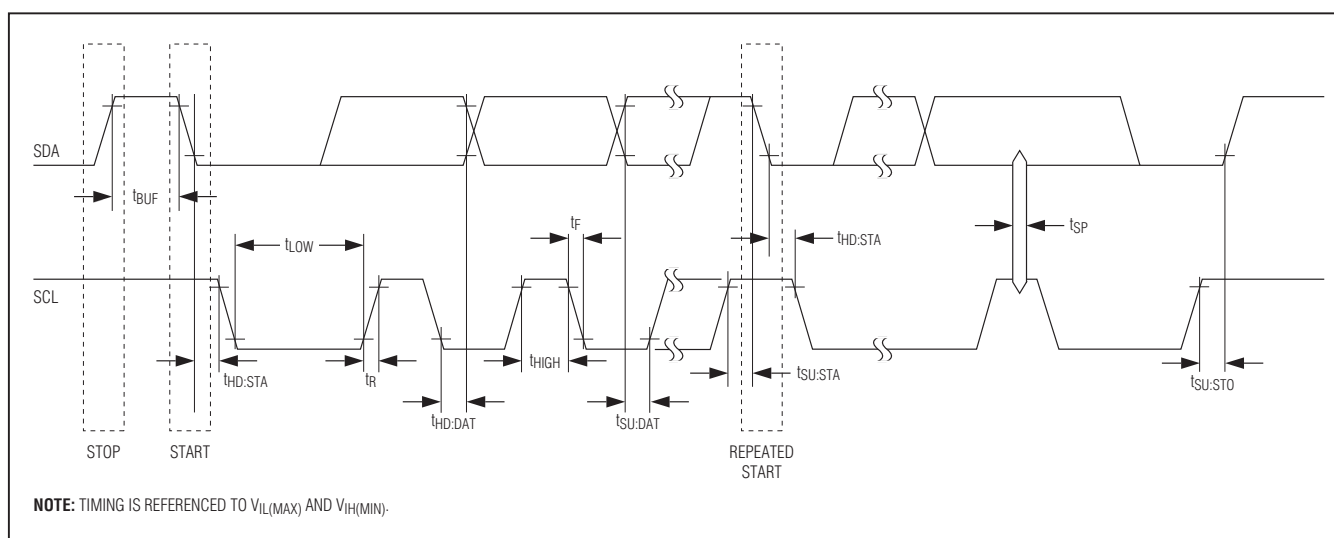

Figure 12. I2C Timing
**START Condition:** A START condition is generated by the master to initiate a new data transfer with a slave. Transitioning SDA from high to low while SCL remains high generates a START condition. See Figure 12 for applicable timing.
**STOP Condition:** A STOP condition is generated by the master to end a data transfer with a slave. Transitioning SDA from low to high while SCL remains high generates a STOP condition. See Figure 12 for applicable timing.
**Repeated START Condition:** The master can use a repeated START condition at the end of one data transfer to indicate that it will immediately initiate a new data transfer following the current one. Repeated STARTs are commonly used during read operations to identify a specific memory address to begin a data transfer. A repeated START condition is issued identically to a normal START condition. See Figure 12 for applicable timing.
of SCL plus the setup and hold time requirements (Figure 12). Data is shifted into the device during the rising edge of the SCL.
**Bit Read:** At the end of a write operation, the master must release the SDA bus line for the proper amount of setup time (Figure 12) before the next rising edge of SCL during a bit read. The device shifts out each bit of data on SDA at the falling edge of the previous SCL pulse and the data bit is valid at the rising edge of the current SCL pulse. Remember that the master generates all SCL clock pulses, including when it is reading bits from the slave.
**Acknowledgement (ACK and NACK):** An acknowledgement (ACK) or not-acknowledge (NACK) is always the 9th bit transmitted during a byte transfer. The device receiving data (the master during a read or the slave during a write operation) performs an ACK by transmitting a zero during the 9th bit. A device performs a NACK by transmitting a one during the 9th bit. Timing (Figure 12) for the ACK and NACK is identical to all other bit writes. An ACK is the acknowledgment that the device is properly receiving data. A NACK is used to terminate a read sequence or as an indication that the device is not receiving data.